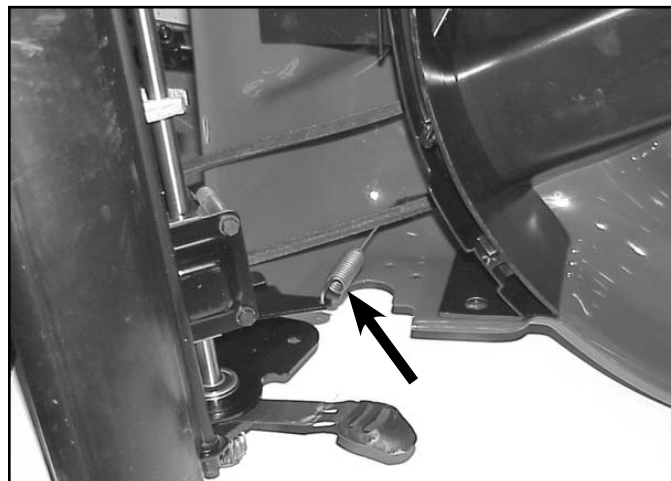

Fig 076
20. The cable may be unhooked from the arm on the transmission to help prevent cable damage (Fig. 076).